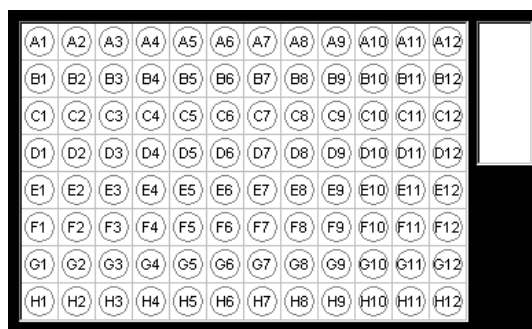

Figure 5-12 Microtiter Plate Image
- For certain commands, select the location where you want to draw or expel fluid. You do this using the location drop-down arrow and clicking over the microtiter plate location on the image. See Figure 5-12. The rectangular box in the upper right corner represents the reservoir.